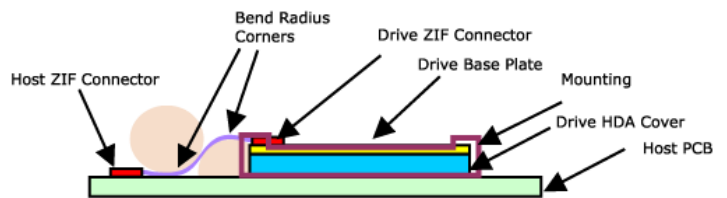

Figure 4 Examples of mounting ZIF interface
- Do not bend the cable sharply as this may cause the electrical traces to be broken. See Figure 4.